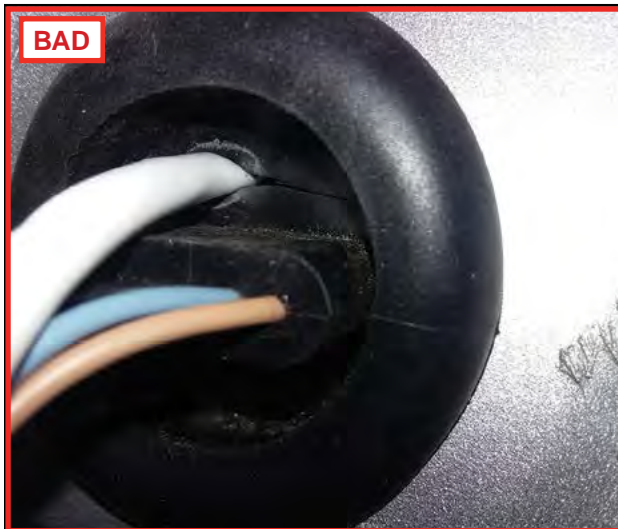
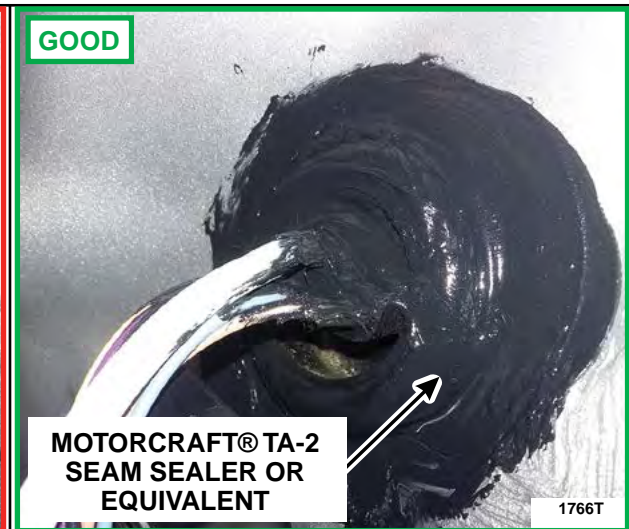

FIGURE 6a
FIGURE 6b
7. Inspect the sheet metal, wiring harness grommets and factory equipped pass throughs for damage or holes created when installing aftermarket wiring and equipment. See Figure 6a. Seal all holes in the sheet metal and wiring harness grommets with Motorcraft® TA-2 seam sealer or equivalent. See Figure 6b.